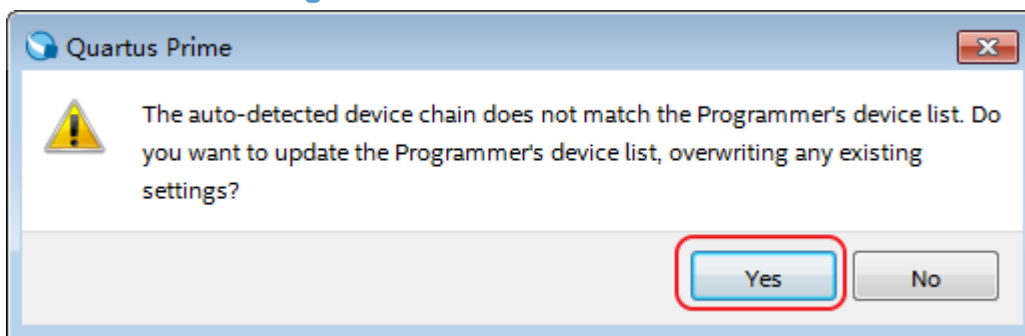

Figure 4-6 Updating the device
- You will see a CFI\_1Gb Flash detected on the JTAG chain. Press Yes to update the device list as shown in **Figure 4-6**.